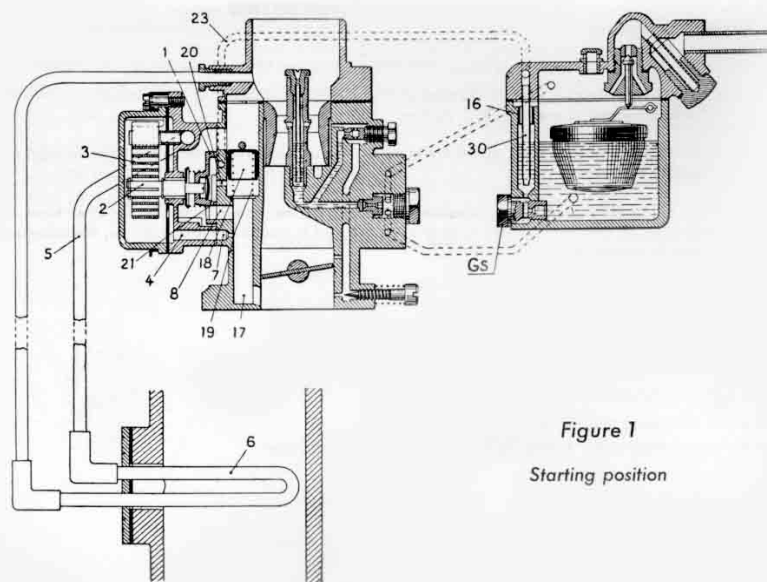
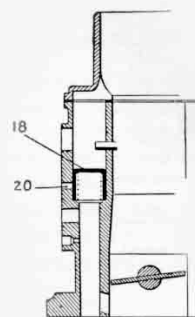

Figure 1
Fig 2
In cold weather and when the engine is cold, the piston occupies the position (figure 1) and the disc valve the figure 2 position, that is to say, the disc valve ports (25) are in direct communication with the equivalent ports on the face on which the disc valve rests.
At the time of starting, when the engine turns, driven by the starter motor, the depression in the inlet manifold is relatively weak. The piston (18) keeps high position (figure 1) and the fuel passes through the channels (23) and (20), when the air is fed through the orifice (8); the mixture is then very rich. On the other hand, when the engine is running, the depression becomes high, the piston (18) is withdrawn (figure 2) and the fuel only comes through the orifice (21) which has the effect of weakening the mixture.